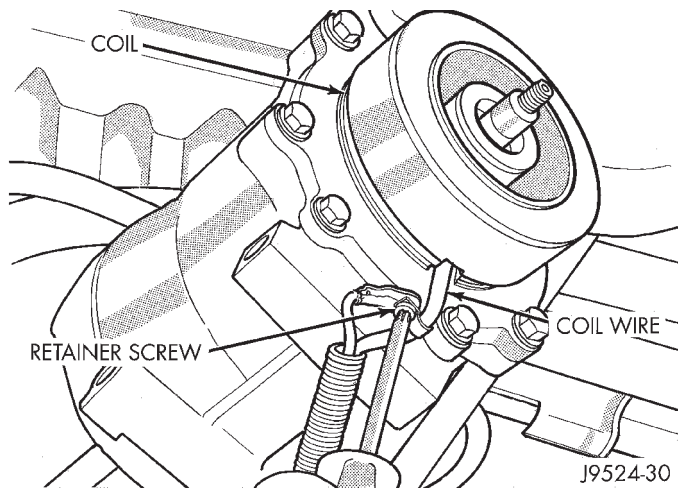

Fig. 9 Coil Lead Wire
(9) Remove the screw and retainer from coil lead wire on compressor front housing (Fig. 9).